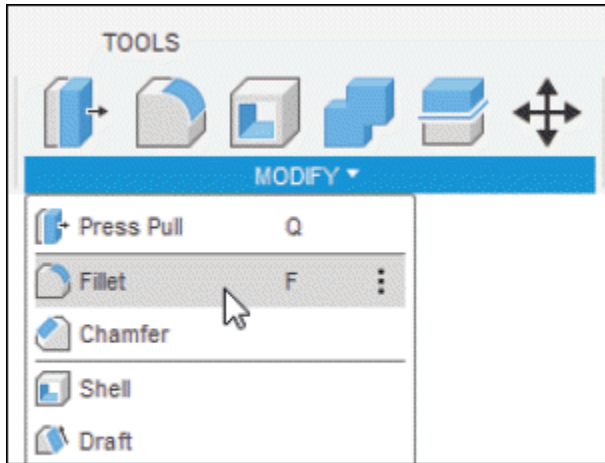
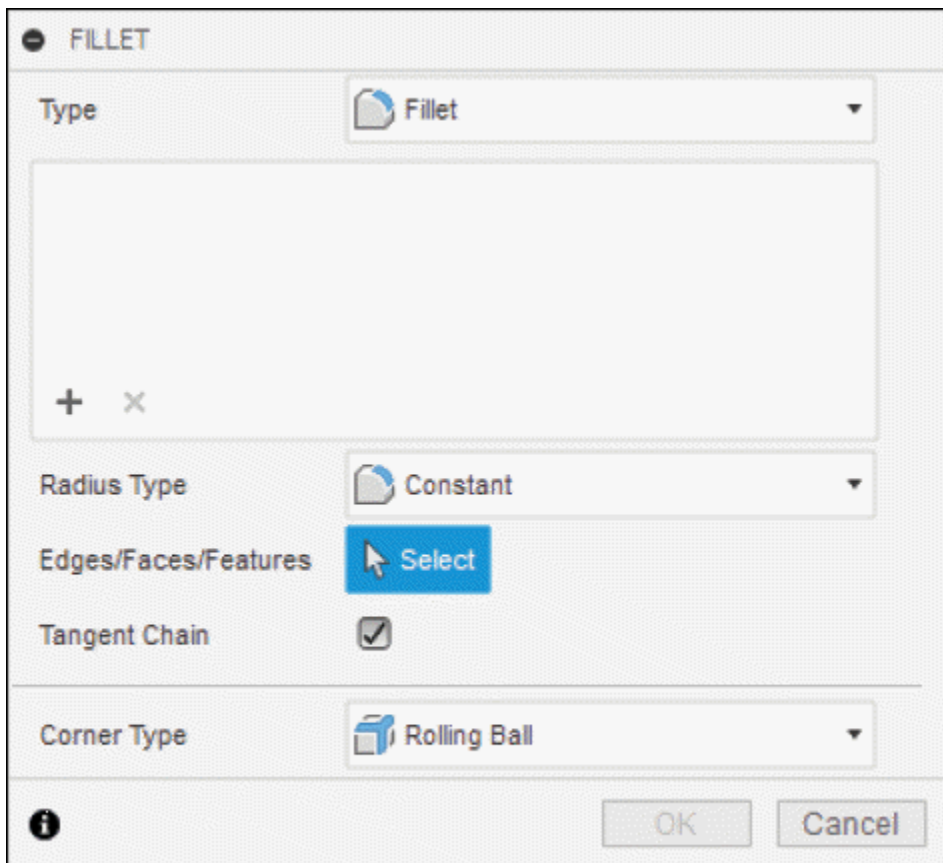

Figure-6. 3D Fillet tool
Figure-7. FILLET dialog box
- Select **Fillet** tool of **MODIFY** drop-down from **Toolbar**; refer to Figure-6 or press **Q** and select an edge. The **FILLET** dialog box will be displayed; refer to Figure-7.